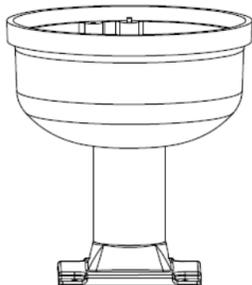

Figure 11: Attach the mount cap and pole
2. Connect top shield, pendant pole and mount together as shown in Figure 11.